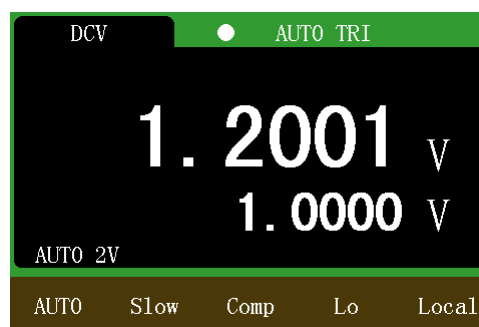
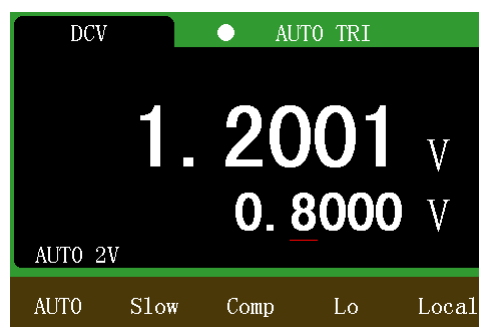

Figure 5-13 Lower limit comparison interface
Figure 5-14 Lower limit setting interface
2. Press **SHIFT** + **LO MEM** key combination to select the COMP LOW function, as shown in Figure 5-13. Press the key combination again to exit the COMP LOW function.
4. In the lower limit comparison interface shown in Figure 5-13, press the Enter key to call up the lower limit setting interface. The up / down / left / right arrow key can be used to modify the lower limit, as shown in Figure 5-14.